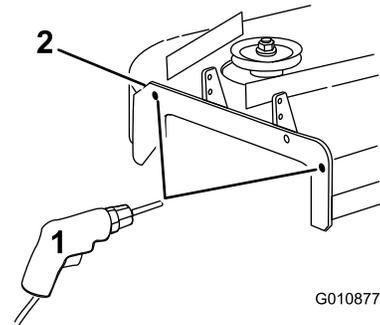

Figure 6
1. Check the hole diameters in the locations shown in Figure 6.
3. Drill the holes to the specified diameter in the locations shown in Figure 6.